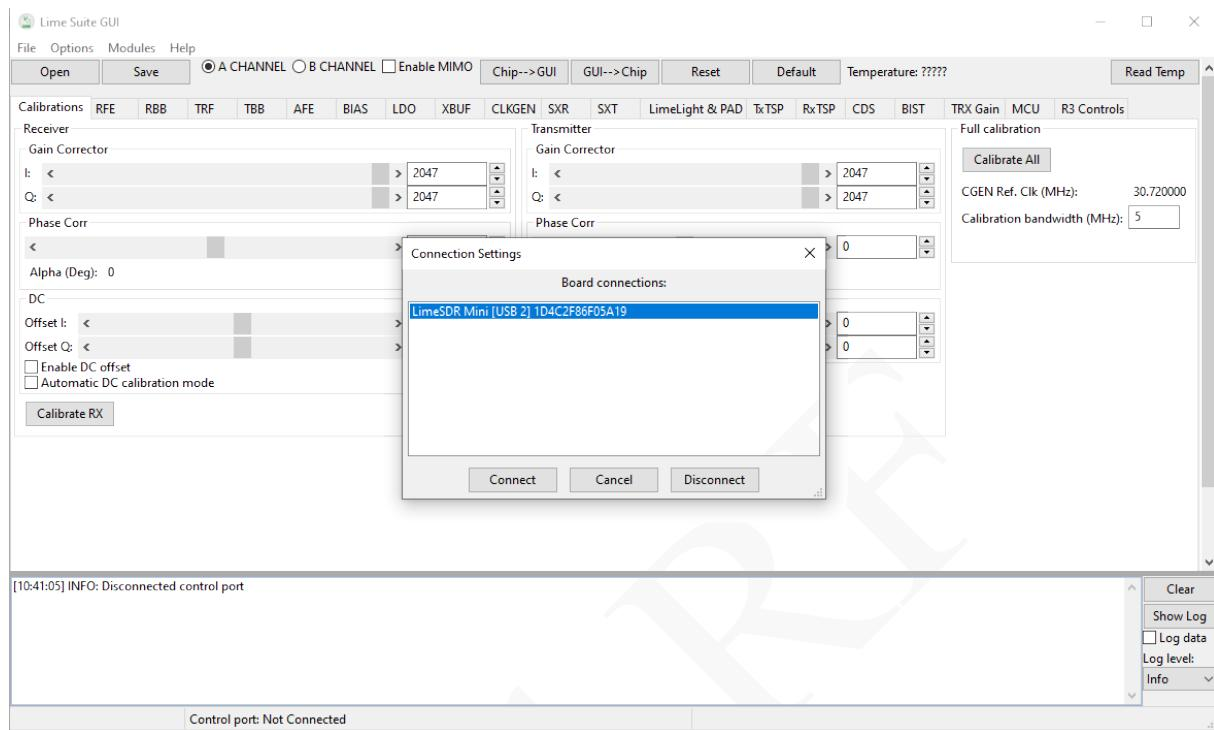

Figure 2: Lime Suite GUI window
- Open Lime Suite GUI and then go to Options→Connection Settings (Figure 2).